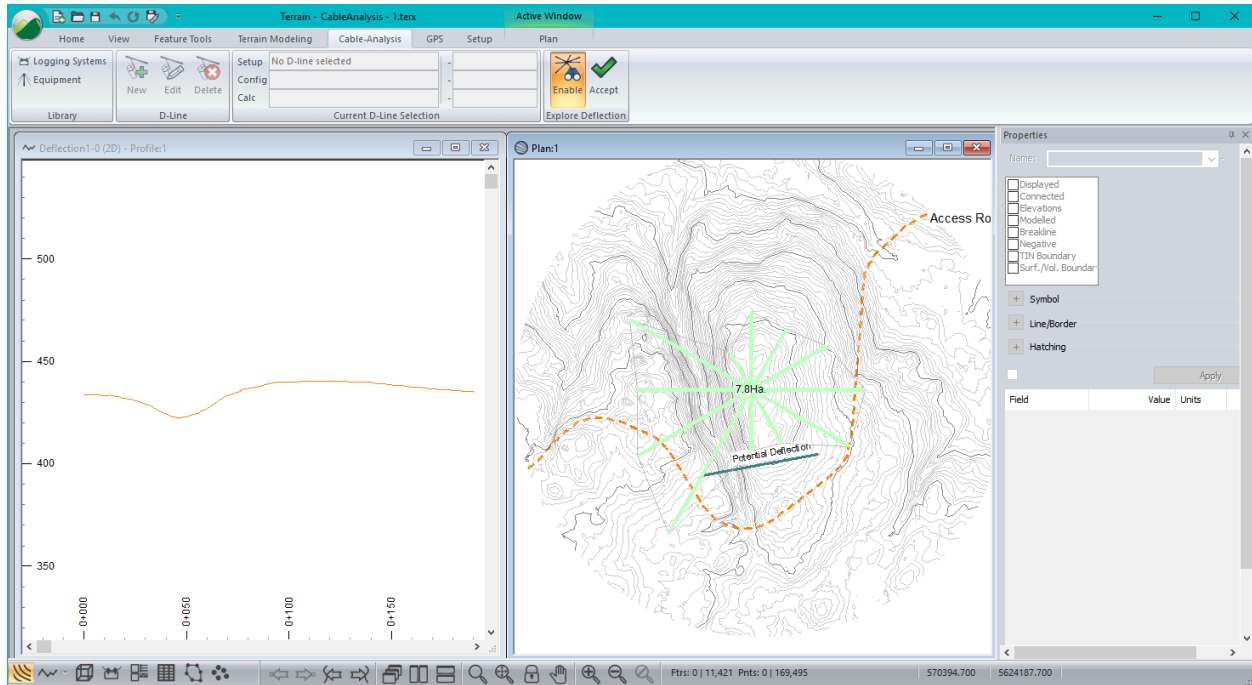

Figure 12-14: View of the Explore Deflection tool in use.
- In the Plan view, the cursor symbol ✱ will have changed. Click near the center of the top surface to see radial D-Lines extending out from that point as shown in Figure 12-14.